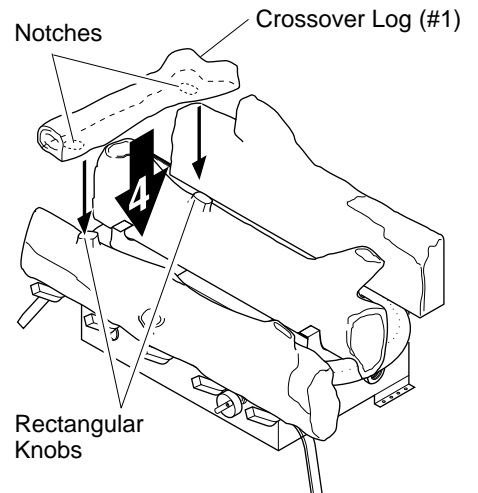

Figure 20 - Installing Crossover Log (#4)
4. Locate the notches in the bottom of the crossover log (#4). Place the crossover log on top of the middle log and front log. Make sure the notches of the crossover log lines up with rectangular knobs on top of the middle and front logs (see Figure 20).